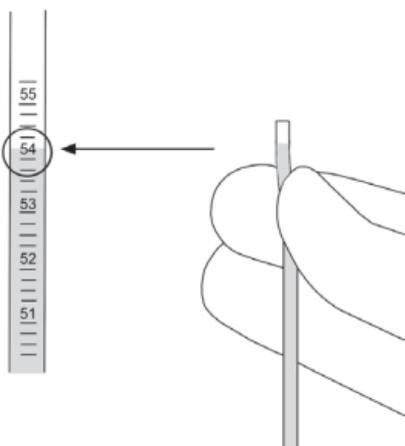

Figure A-4
- Bring the end of the distal catheter level with the fluid level in the manometer (Figure A-4).